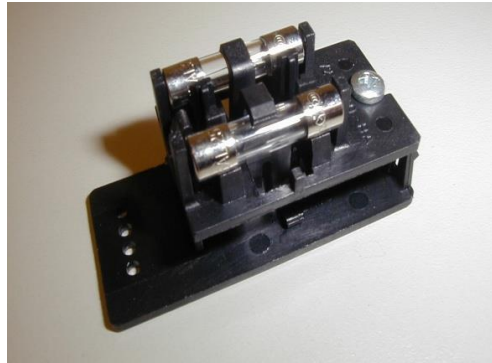

Figure 1
- 1.1.2. Remove the fuse holder from the power entry module of the 2CP chassis (11905-0000-01). Install (2) 3.15 Amp AG Fuses (10649-0315-01) into the fuse holder as shown in Figure 1. Remove the single fuse from the other side and discard.